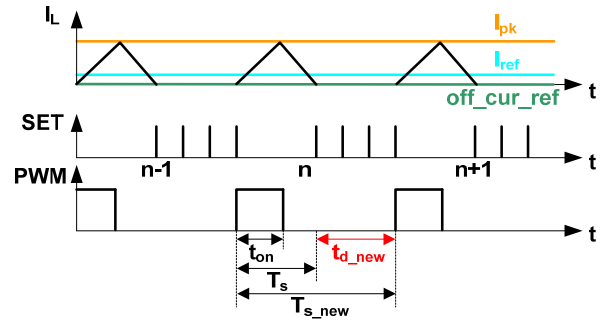

Figure 22: Td Control Signals
As shown in Figure 22, Td_filter is implemented in the calculation of the delay time. It helps reduce the current distortion in DCM operations. With Td_filter , the new delay time can be calculated with Equation (18):